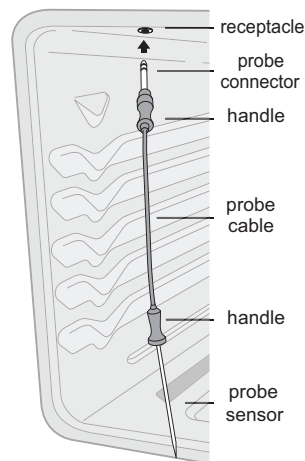

Figure 37: Probe receptacle insertion
The probe receptacle is located at the top of the oven cavity as shown in Figure 37.
Handle the meat probe carefully when inserting and removing from food or probe receptacle. Do not use kitchen utensils, such as tongs, to pull on meat probe cable when inserting or removing from food or receptacle. Use the provided handle, as shown in Figure 37. To avoid possibility of burns after cooking, carefully unplug meat probe using a pot holder to protect hands.
- 2. Plug the meat probe into the probe receptacle located on the top of the oven cavity (Figure 37).